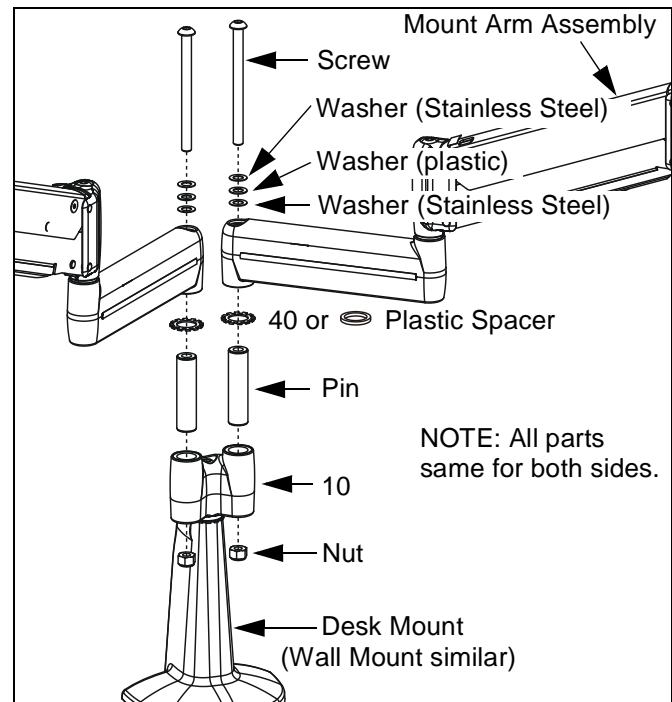

Figure 9: Multi-Dual Arm Assembly
1. Insert retained pin into Y-connector (10) upper bore (See Figure 9).
2. Install washer (40) or retained plastic spacer, as desired, on pin (See Figure 9).
3. Insert mount arm assembly on pin (See Figure 9).
4. While holding retained nut in lower bore of Y-connector (10), insert retained screw through retained washers (stainless steel washer, plastic washer, and stainless steel washer), mount arm assembly, and Y-connector (10), into retained nut (See Figure 9).